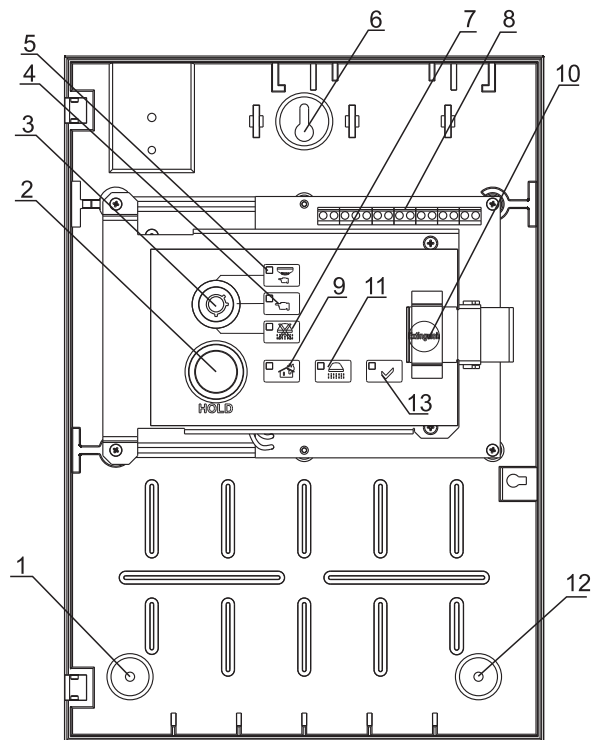

Fig.2
- fix the module to the dowels through the three openings of the box (pos.1, 6, 12, fig.2);
All signal and power cables are connected using the terminals (pos.8, fig.2), mounted on the printed-circuit board (fig.3).